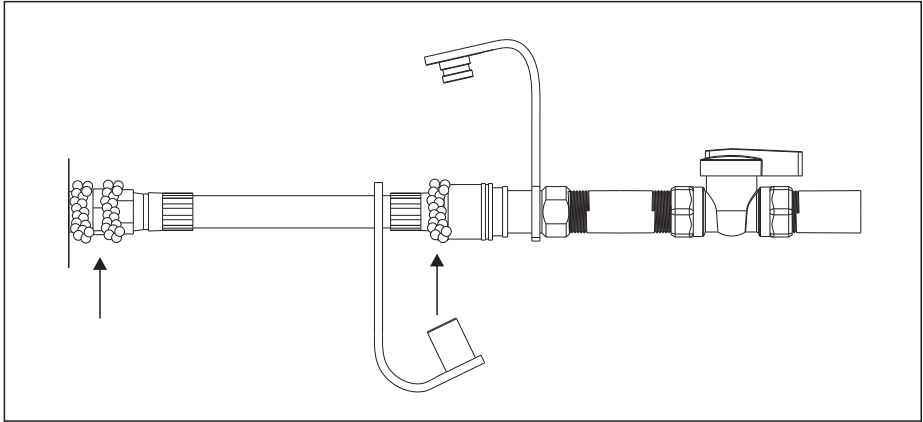

Figure 10
7. Check all the connections and joints with ammonia free soapy water solution or leak detection solution. Bubbles that appear to grow in size are the indication of a gas leak (Figure 10).